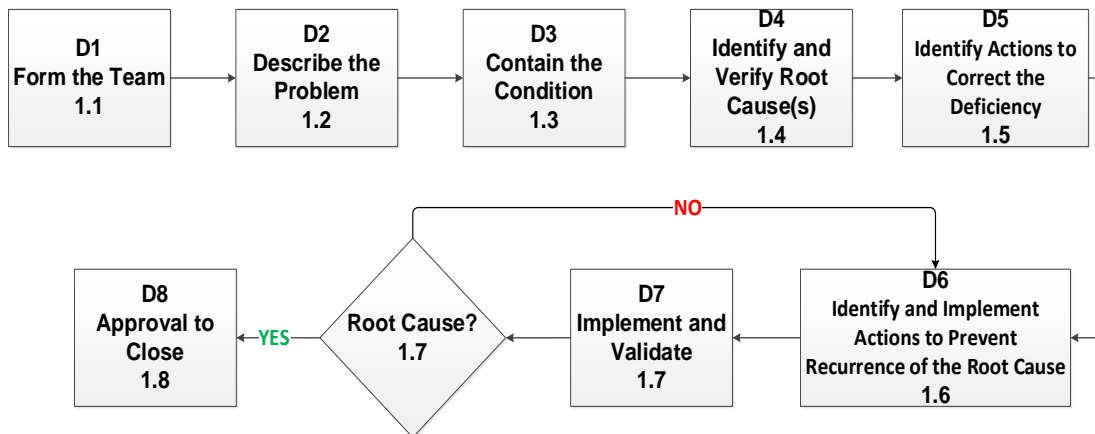

FIGURE 1
- Figure 1 illustrates the 8D process flow. The guidelines in this document may be scaled appropriately to the severity of the issue.